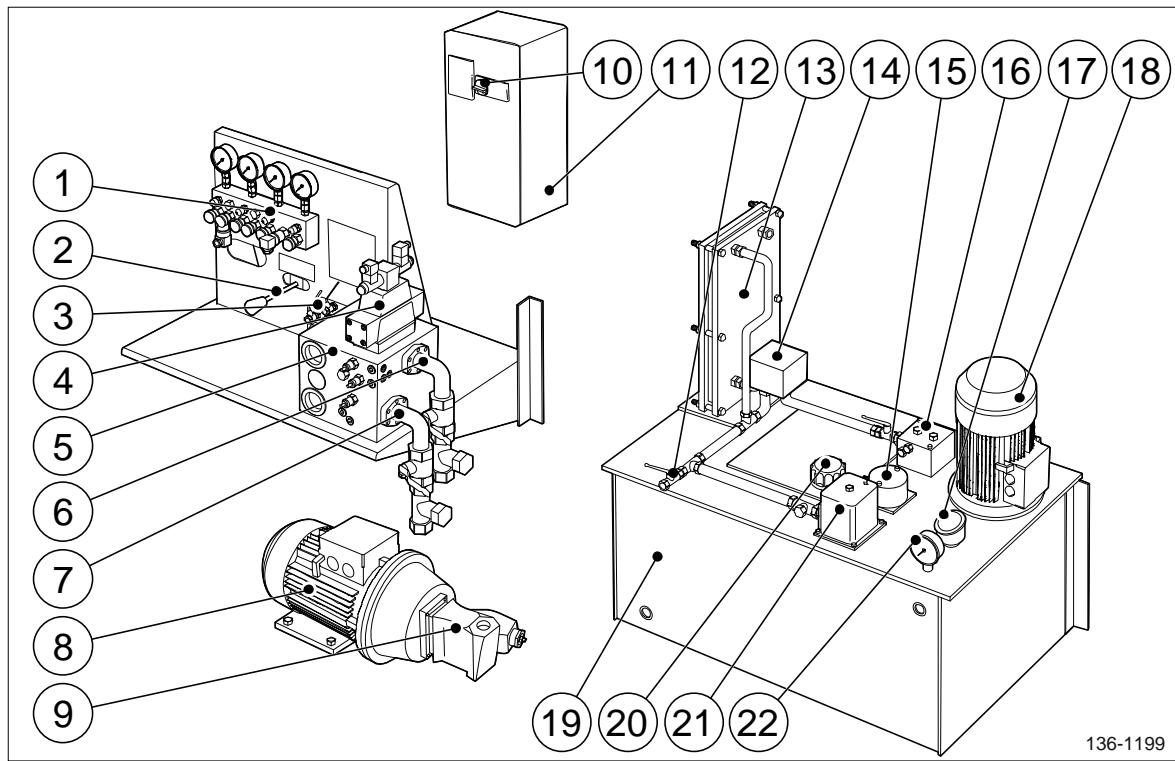

Figure 8 Hydraulic system.
The electrically driven pump (pos 9, figure 8) is used as main pump and supplies oil pressure for the pitch control.
The manoeuvring of the pitch is controlled by the proportional control valve V3 (pos 4, figure 8) located on the valve manifold.
The low oil pressure is maintained by a continuously running pump unit P3 (pos 18, figure 8) during operation. The pump is an electrical motor driven double pump and both pump units are run simultaneously. One of the pump units supplies the pressure to the
The hydraulic system is equipped with an oil cooler (pos 13, figure 8). The current oil temperature are shown on a gauge on the control panel (pos 22, figure 8).
The filter (pos 21, figure 8) in the filtration system is equipped with electrical and visual indication. The filter has a by-pass function and the filter element can be replaced during operation.